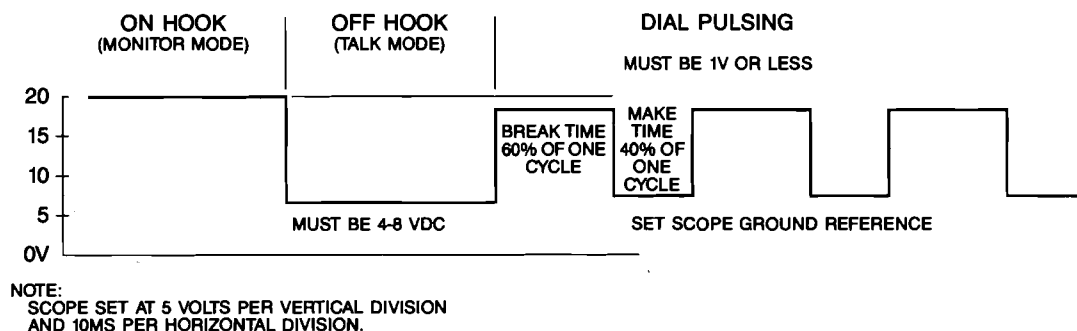

Fig. 14—Proper Waveform for Dial Pulses
- (1) Set the TS21 **TALK/MONITOR** switch to **T**.
- (2) Set the TS21 **KEYPAD** switch to **IN**.
- (3) Set the TS21 **MODE** switch to **PULSE**.
- (4) Set the test fixture power supply for 30 Vdc.
- (5) Set test fixture switch S2 to **LOW**.
- (6) With voltmeter reference to Pin 3 of the keypad module, check the following pins:
- (7) Connect the oscilloscope across Pins 3 and 5 of the keypad module.
- (8) Press any keypad key. The oscilloscope should show a proper train of dial pulses with amplitude similar to Figure 14.